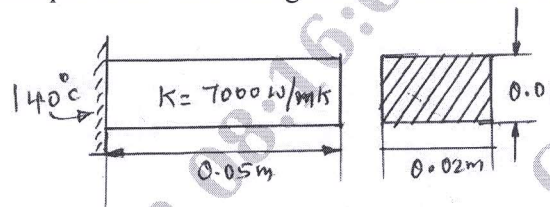

Fig.Q7(b)
b. Determine the temperature distribution in the rectangular fin as shown in Fig.Q7(b). Assume steady and only conduction process. Take heat generated inside the fin as  $400\text{W/m}^3$ . (06 Marks)